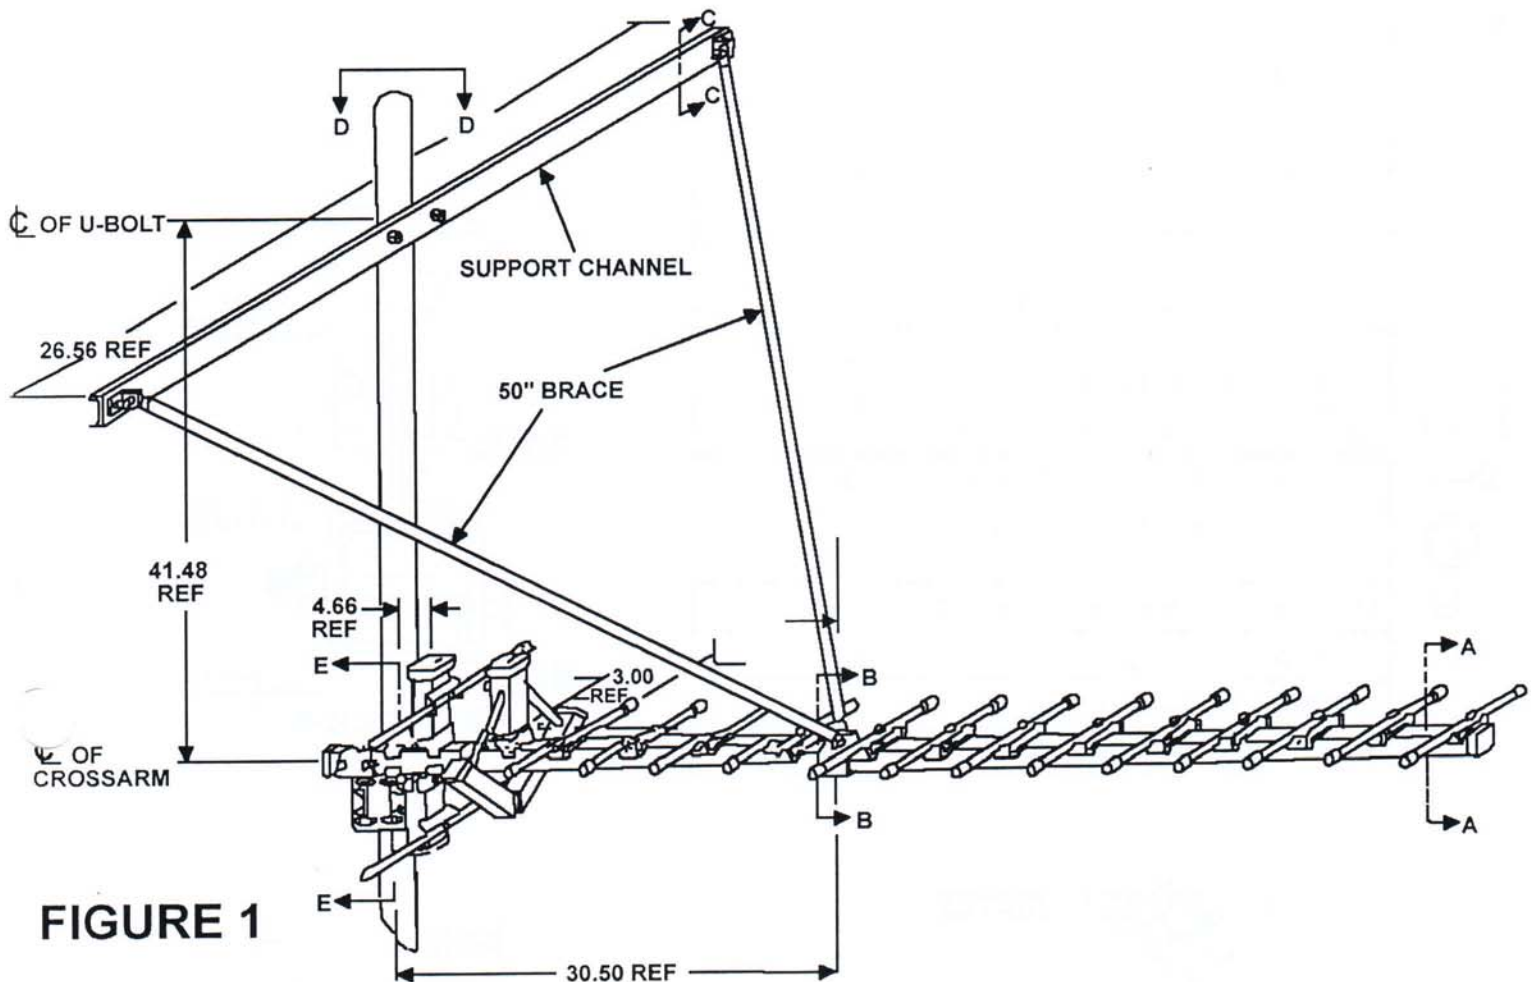

FIGURE 1
1. LIFT THE ANTENNA ASSEMBLY INTO POSITION, ORIENT IN THE DESIRED DIRECTION AND LIGHTLY SECURE TO THE MAST WITH SUPPLIED U-BOLTS, WASHERS AND NUTS. LIGHTLY SECURE SUPPORT CHANNEL ABOVE CROSSARM AS SHOWN IN FIGURE 1.